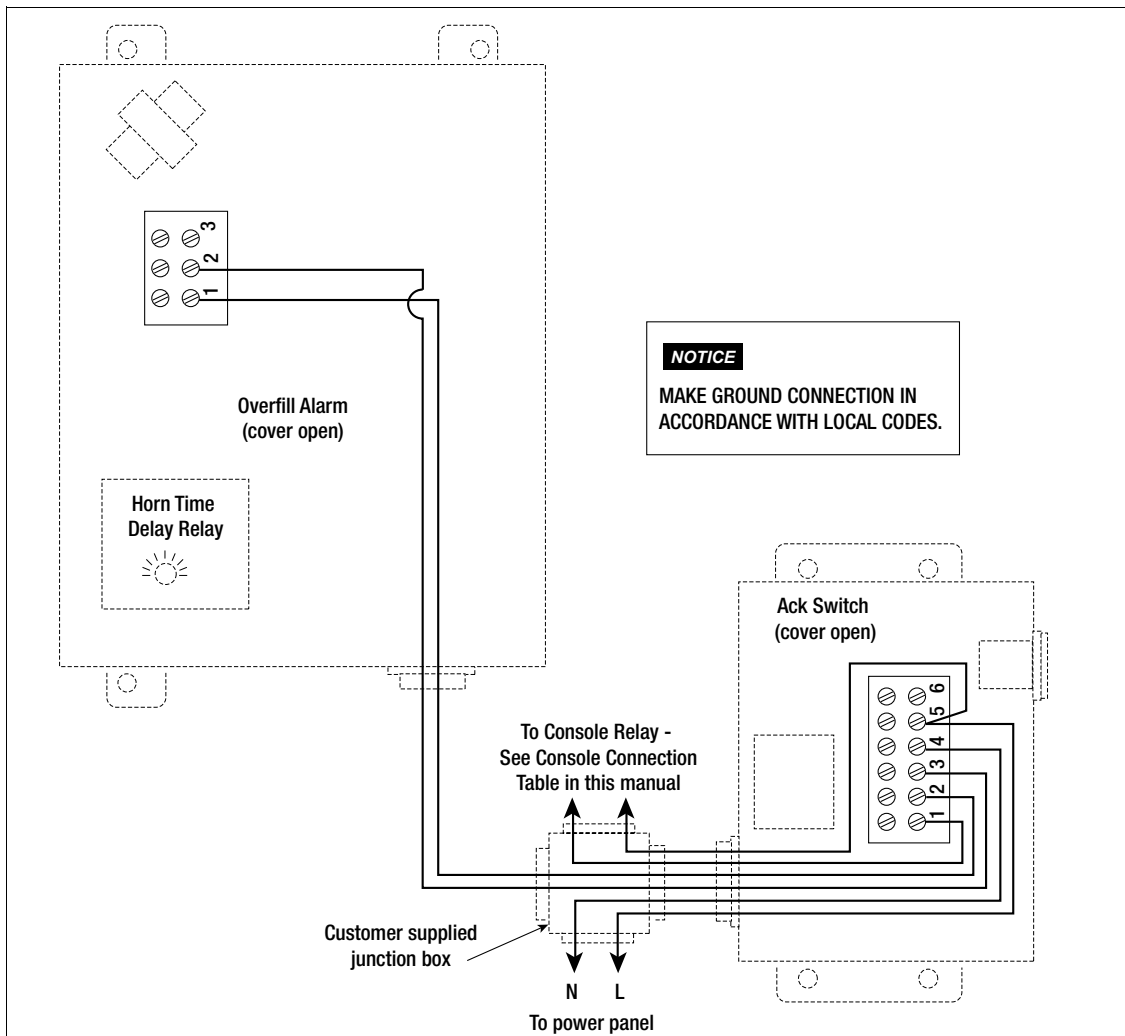

Figure 3. Overfill Alarm/Acknowledgment Switch wiring connections
- Figure 3. Overfill Alarm/Acknowledgment Switch wiring connections 6
5. Turn power Off and connect wiring according to the wiring diagram in Figure 3 and Table 1.
Overfill Alarm with Acknowledge Switch (see Figure 3)
2. Locate the Horn Time Delay Relay (see Figure 3).